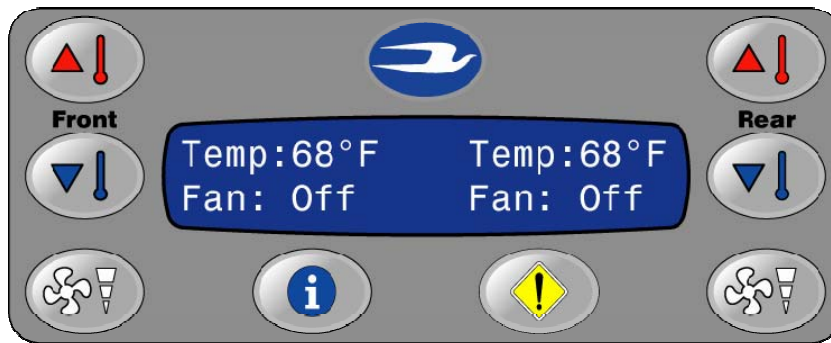

Figure 4
8. Downloading will take approximately 20 seconds and the ECC DownLoader software will display progress. Once downloading is complete, ECC automatically returns main screen. (see figure 4)